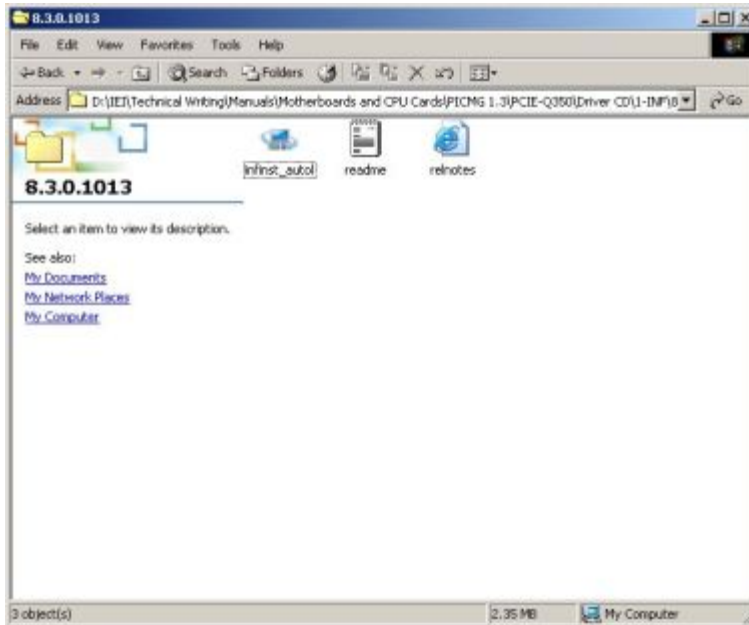

Figure 6-4: Intel® Chipset Driver Setup Icon
Step 5: The window in Figure 6-4 appears.
Step 6: Click on the **infinst_autol** setup icon in **Figure 6-4**.